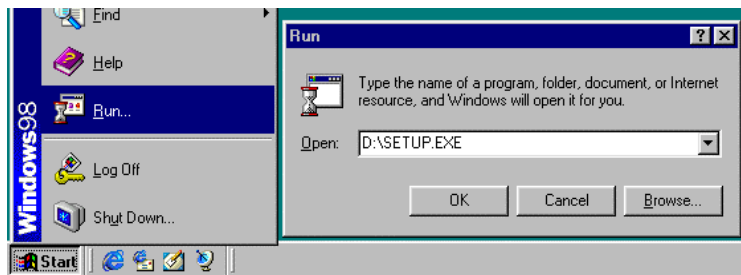

Figure 15: Starting the installation
3. Click on 'Start' and select 'Run' (Figure 15).